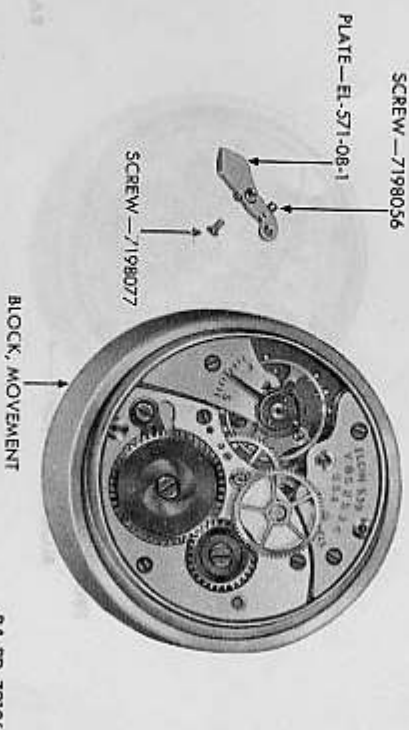

Figure 147 — Elgin Wrist Watch — Sweep Seconds Pinion Bridge Removed
**h. Remove Sweep Seconds Bridge (fig. 147).** Invert the movement and remove the screw from the sweep seconds bridge. Lift off the bridge.
- (3) **REPLACE SWEEP SECONDS PINION BRIDGE (fig. 147).** Replace the sweep seconds pinion bridge; secure with bridge screw.